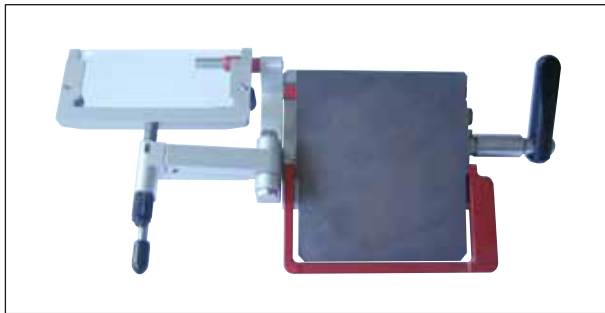

Fig. 46
- Move the anti-roll guide to the side (→ Fig. 46).